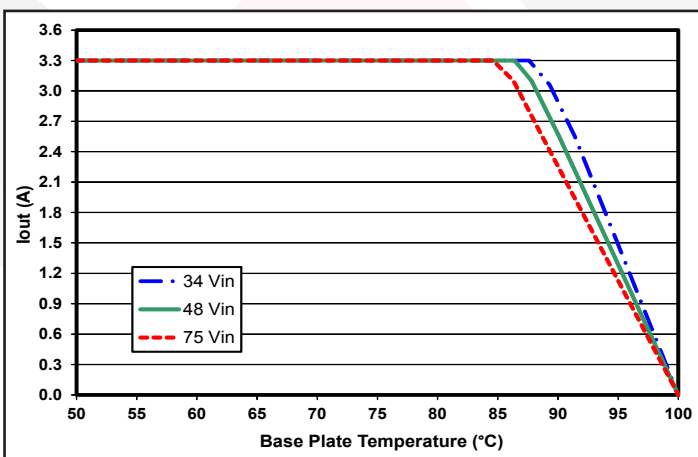

Figure 5: Maximum output current vs. baseplate temperature. Airflow rate of 300 LFM with air flowing from Vin(-) to Vin(+). See Note 3.
**Thermal Considerations:** The maximum operating base-plate temperature,  $T_B$ , is 100 °C. Refer to the thermal derating curve, Figure 5, to see the available output current at baseplate temperatures below 100 °C.